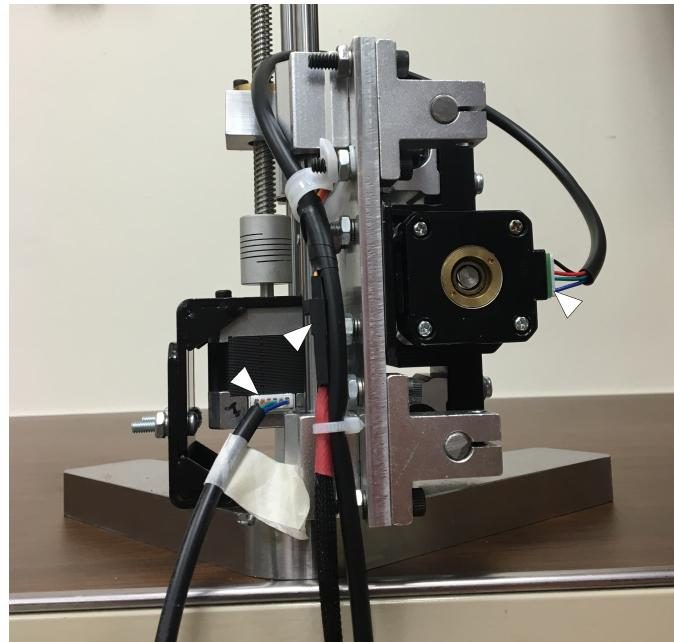

Figure 5: Molex cables secured and out of the way
11. Ensure the three molex cables are securely plugged in to the ARIA (see Figure 5)
- There are three connection points shown in Figure 5